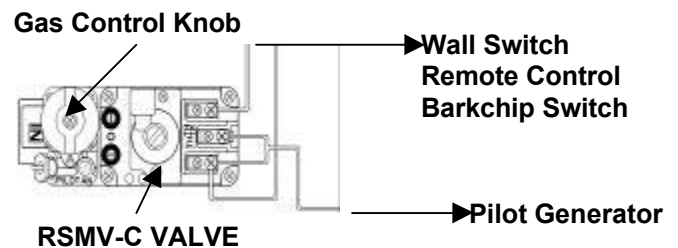

Figure 4
1. To install the wall switch mount a standard 3" x 2" electrical box in the wall near the fireplace. Run the thermostat wire from the electrical box to the millivolt valve. At the valve, connect the lead wires to the two outside terminals labeled "TH". On the switch, connect lead wire to each terminal. (**Figure 4**)